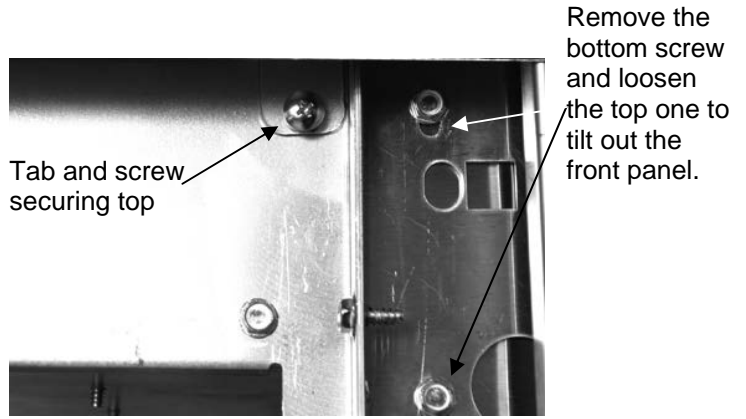

Figure 2: Four sheet metal tabs hold the top in place. Remove these screws at each corner and lift off the top.
2. Lift and remove the sides, which exposes screws that hold the top in place. See **figure 2**.